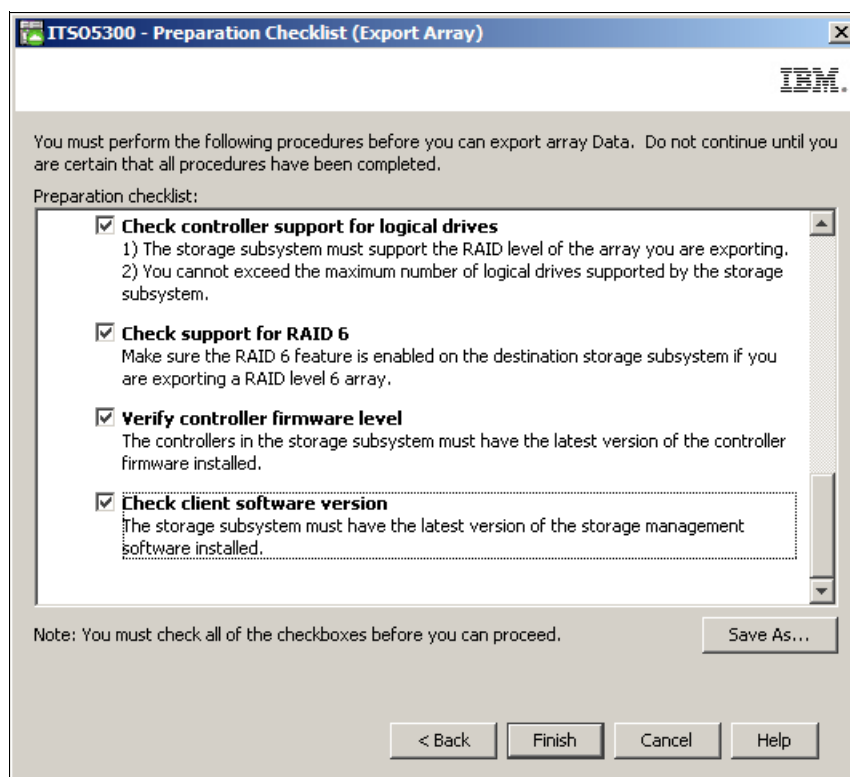

Figure 7-41 Exporting array instructions
3. The Export Array option opens a window detailing all the steps to cover before continuing the operation, as shown in Figure 7-41. The steps can be saved to a text file by clicking **Save As...** .